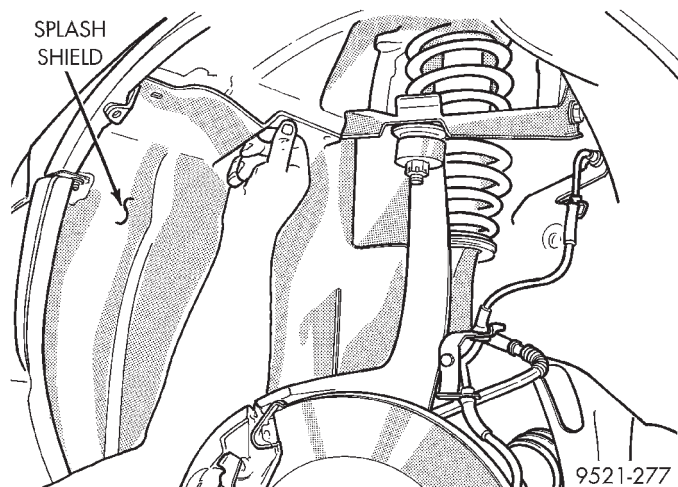

Fig. 47 Lower Splash Shields
(10) Raise vehicle. Remove front wheels. Refer to Group 2, Suspension to remove wheel hub nuts and both drive shafts.
(11) Remove left and right side lower splash shields (Fig. 47).